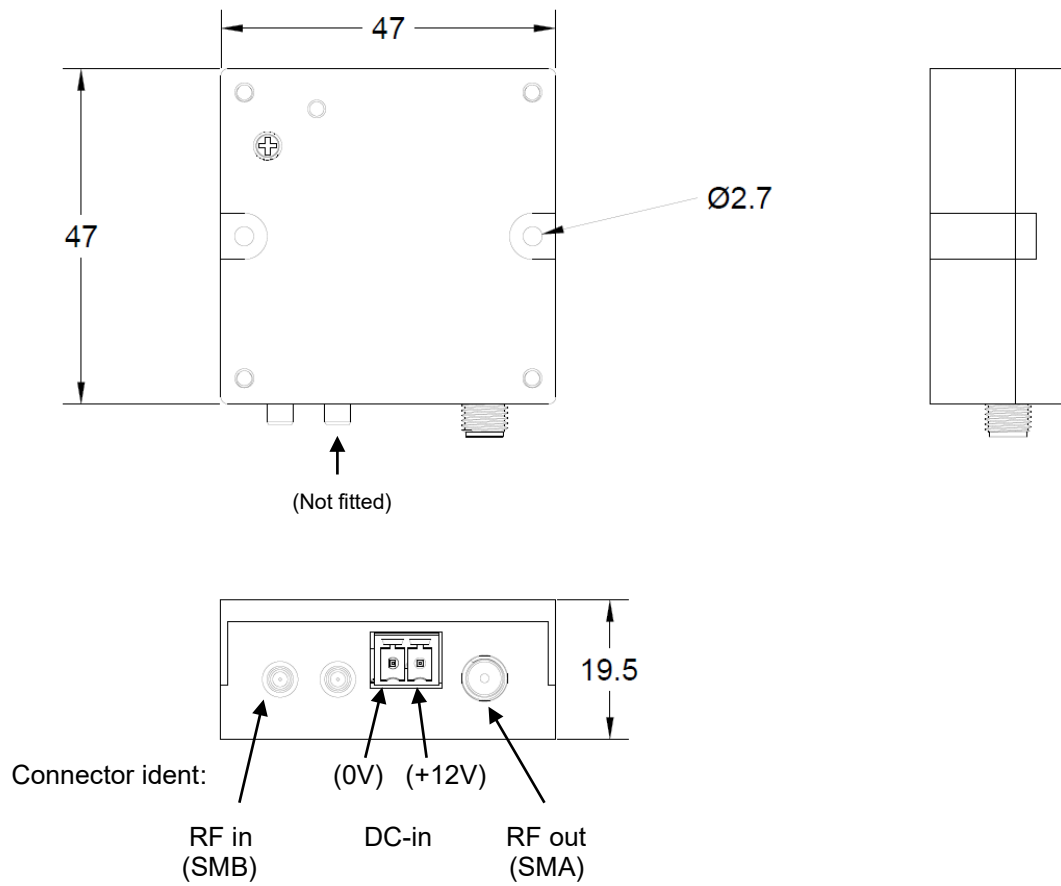

Figure 1: Driver Installation
3.1 Using M2.5 screws, install the Amplifier on a heat sink through the 2.7mm ID holes identified in figure 1. Use heat conducting compound between the Amplifier mounting face and the heat sink.